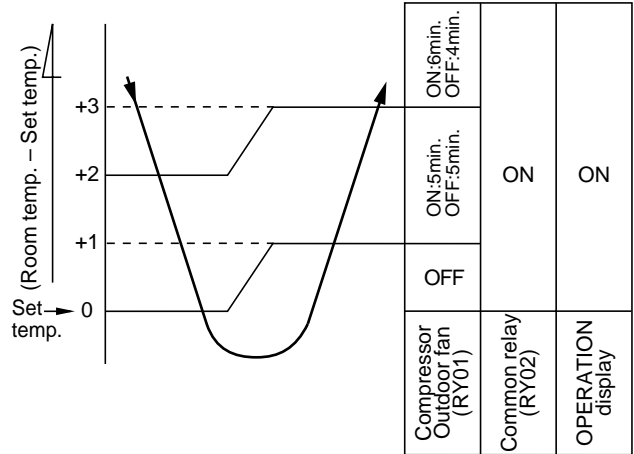

Fig. 7-3-1
- (1) Compressor, outdoor fan and operation display are controlled as shown in Fig. 7-3-1.